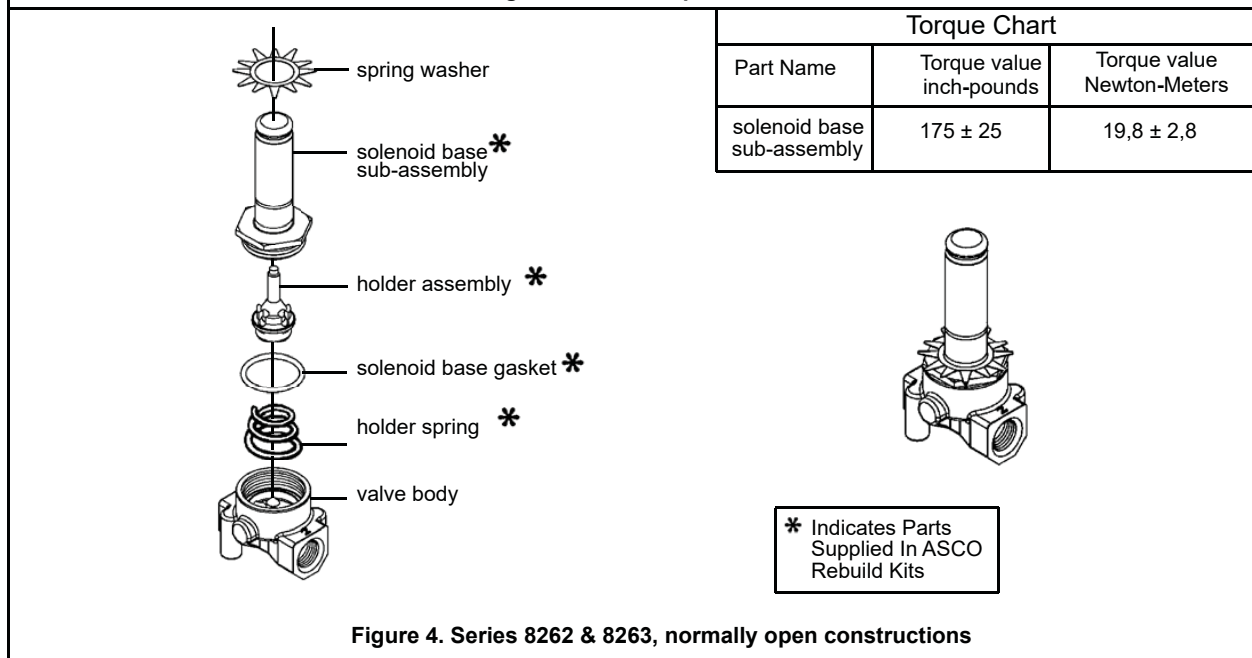

Figure 4. Series 8262 & 8263, normally open constructions
4. For normally open construction (Figure 4) remove spring, and disc holder assembly.
3. For normally open construction (Figure 4), install disc holder assembly and disc holder spring.
- **Open-Frame Construction:** The green solenoid may be supplied with 1/4” spade, screw or DIN terminals. (Refer to Figure 4)